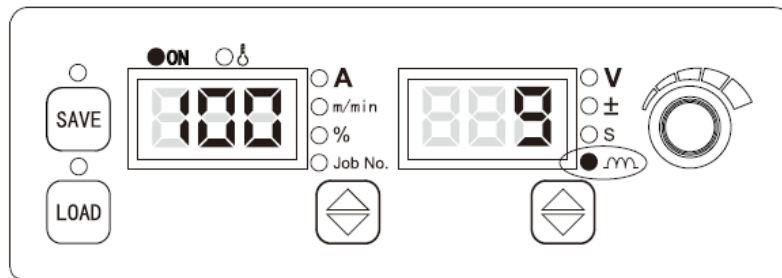

Figure 3-3 Setting arc dynamic
2. Use the knob on the control panel to adjust the value. See Figure 3-3. Press the **ENTER**  button to complete the setup.